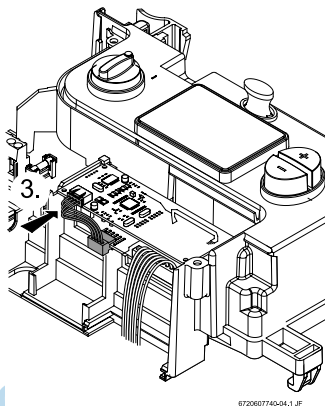

Fig. 6 PCB connection cable
- Connect the other side of PCB connection cable as in Fig. 6.